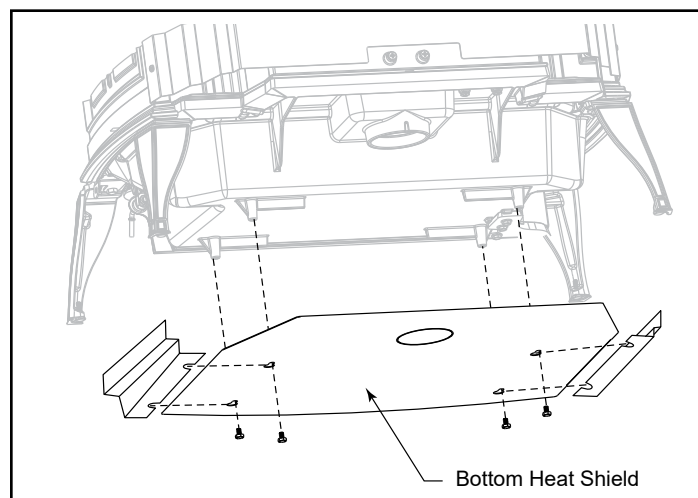

Figure 3.4 - Attach the bottom heat shield.
1. Install (4) 1/4-20 x 3/8" hex bolts supplied in the manual bag into the four holes located under the stove, Figure 3.4.
2. Align the bottom heat shield key holes to the four hex bolts previously installed into base, Figure 3.4. The outside air cutout hole should be toward the rear of the stove.
3. Attach the heat shield sides by passing the slots over the bolt heads. Tighten the hex head bolts, Figure 3.4.